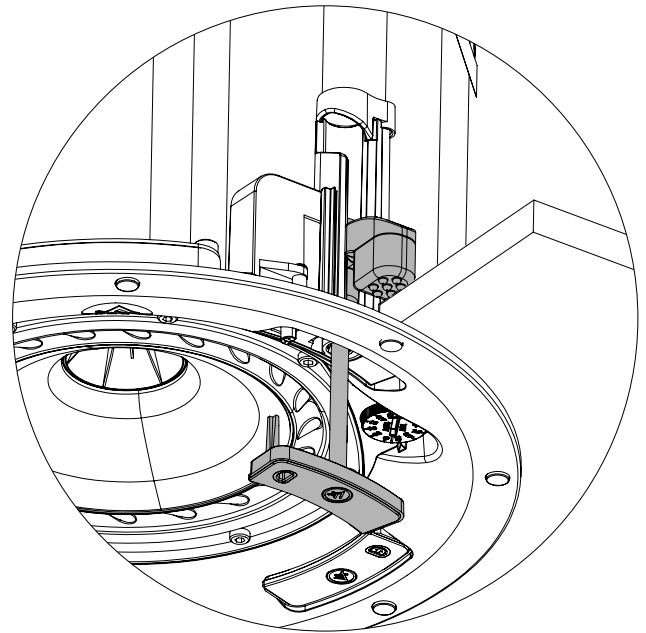

Figure 26
- Pull T-handle down firmly in a smooth continuous motion until the dogleg engages the C-ring and drywall (Figure 26). Pull handle tight to lock in place.